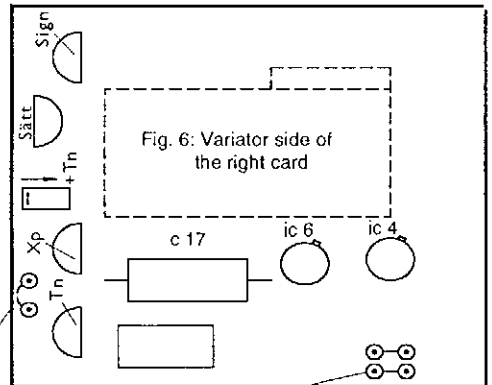

Fig. 6: Variator side of the right card
### g) Setpoint Variator (external – see page 4 fig 6)
f) Three point behaviour (refer to fig 6)